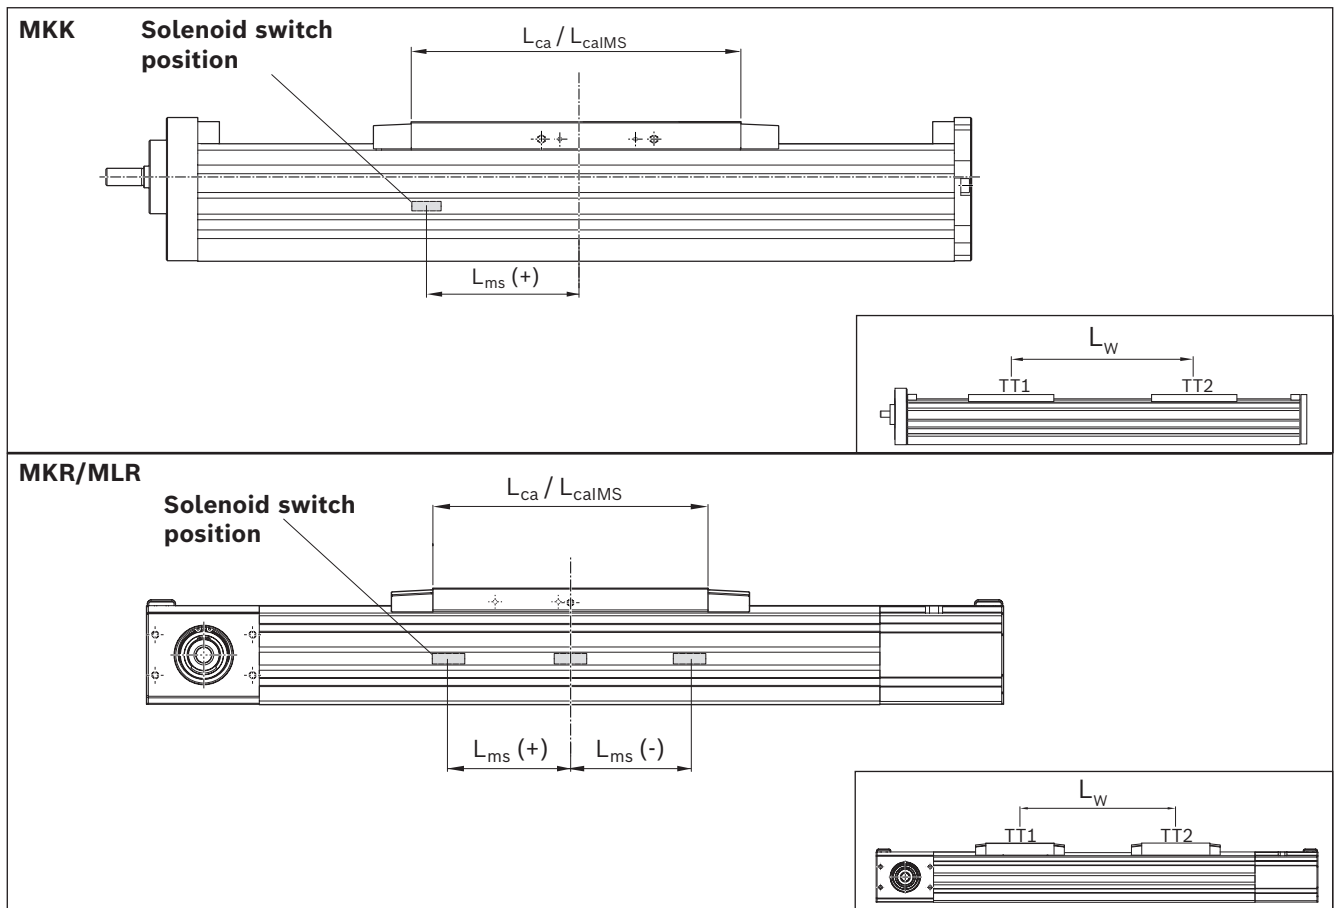

Fig. 22: Solenoid switch position for magnetic sensor
- ▶ The switch activator (both sides) is a magnet that is built into the carriage (no switching cam necessary). At versions with two carriages, the solenoid switch is always in carriage TT1. The switch activation points can be positioned anywhere along the stroke. The solenoid of linear modules MKR is integrated in + or - direction or centrally in the carriage (depending on size, see table 6 and fig. 22).